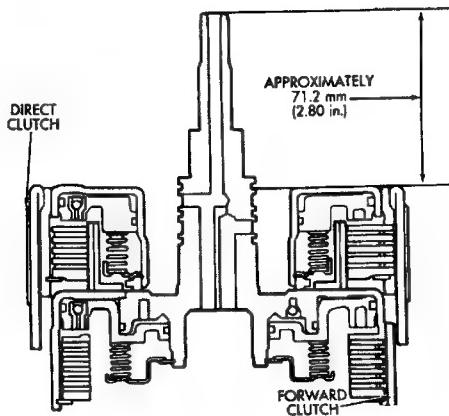

Fig. 17 Checking Forward Clutch Assembled Height
(14) Verify bearing and race size. Outer diameter of bearing is 46.7 mm (1.839 in). Outer diameter of race is 48.9 mm (1.925 in). Inner diameter of bearing and race is 26.0 mm (1.024 in).
(15) Mount forward clutch on direct clutch and check assembled height (Fig. 17). Height should be 70.3 to 71.5 mm (2.767 to 2.815 in).